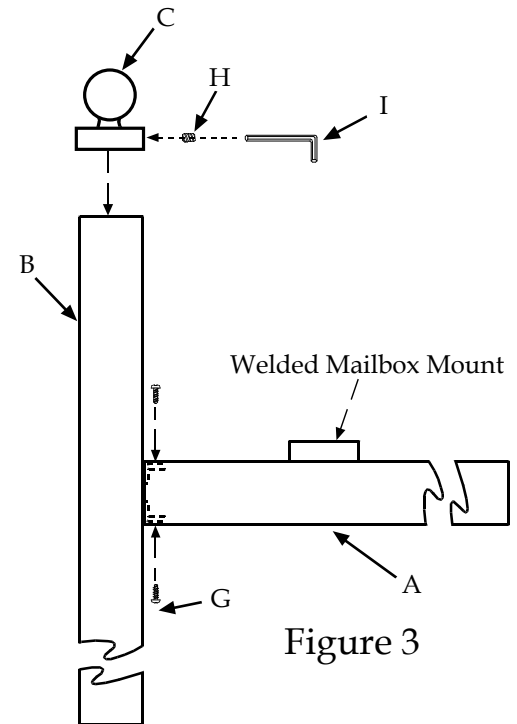

Figure 3
- 2) Slide Cross Bar (A) over L Brackets (F) and attach using 10-24 x 1/2" Screws (G) provided making sure to position mailbox mountings up. (See Figure 3)
- 4) Attach Finial (C) on top of Vertical Post (B) using Allen Wrench (I) and 1/4"-20 x 3/16" Set Screw (H) (See Figure 3)